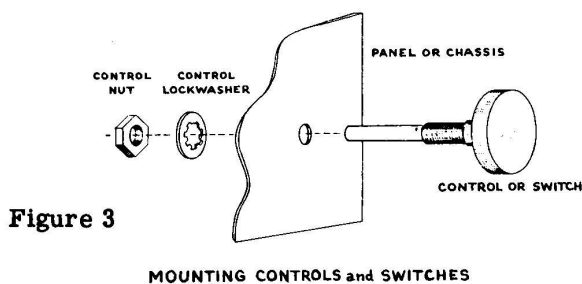

Figure 3
- ( ) Install a 100 K $\Omega$  potentiometer at hole Q, orienting the lugs as shown. The control is secured with a lockwasher and nut on top of the chassis as illustrated in Figure 3.